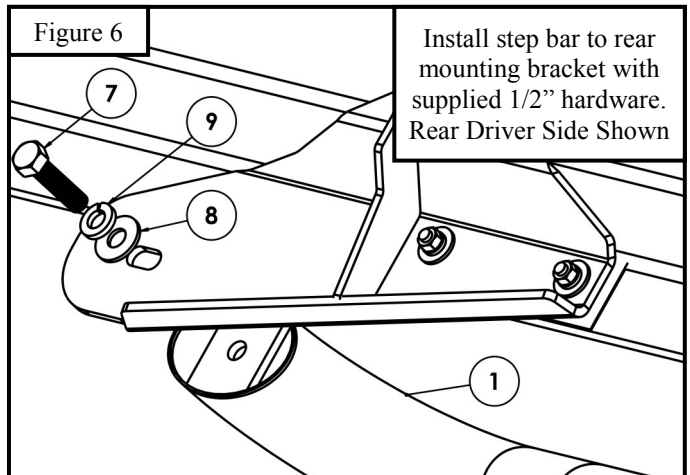

Figure 6
5. Loosely install step bar to driver side mounting brackets using supplied 1/2" hardware. Repeat for passenger side, see **Figures 6 & 7**.